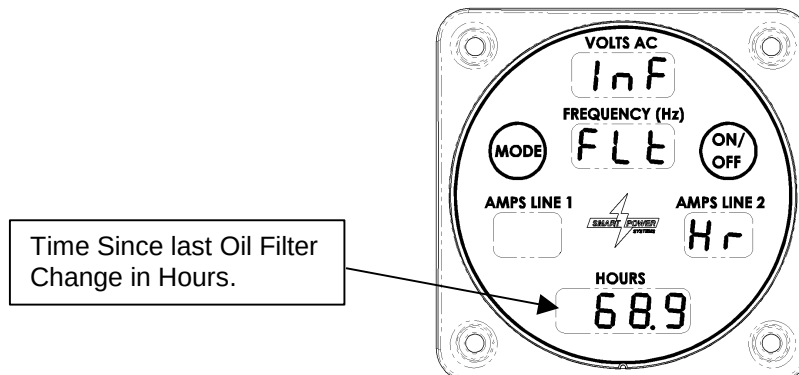

Figure 19 – Oil Filter Run Time Display
- d. Pressing the Mode switch a fourth time will cause the amount of time since the oil filter was last changed to be displayed in the hours field as seen in Figure 19